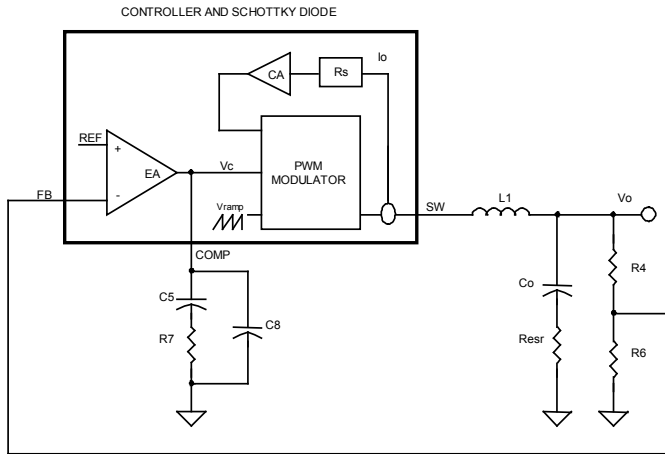

Figure 7. Block diagram of control loops
The block diagram in Figure 7 shows the control loops of a buck converter with the SC4525A. The inner loop (current loop) consists of a current sensing resistor ($R_s=4.1\text{m}\Omega$) and a current amplifier (CA) with gain ($G_{CA}=28$). The outer loop (voltage loop) consists of an error amplifier (EA), a PWM modulator, and a LC filter.
For a converter with switching frequency F_{SW} output inductance L_1 , output capacitance C_o and loading R , the control (V_c) to output (V_o) transfer function in Figure 7 is given by: